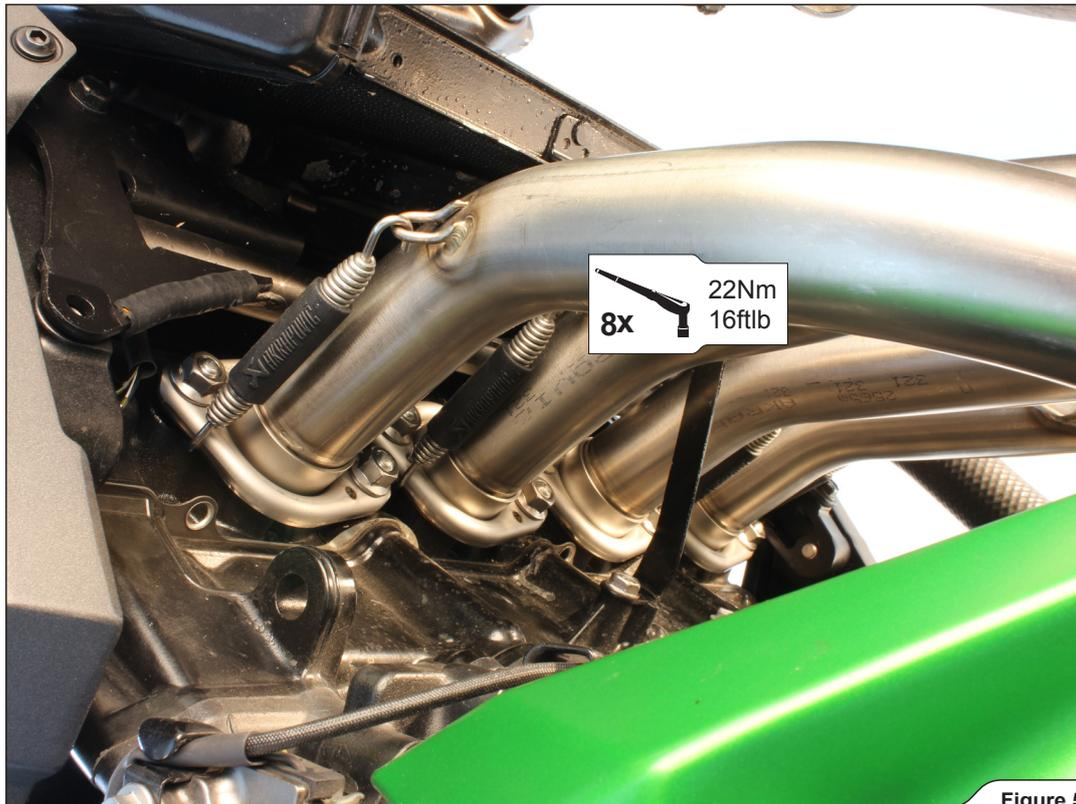

Figure 5
2. Insert the headers/collector assembly into the sleeves, attach the springs and tighten the flanges to specified torque (Figure 5).